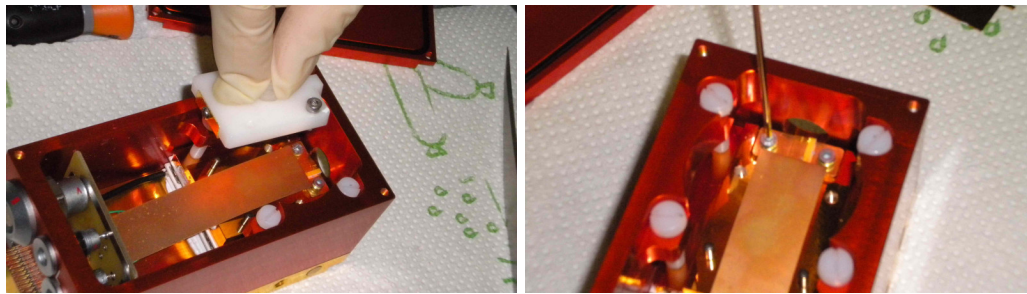

Figure 5.26.: Laser exchange procedure: removing the contact set (left), securing the laser submount (right).
2. remove the two screws (3) holding the contact set (4) using a 2mm hex key
3. remove the contact set using the central PET² knob, as show in figure 5.26.
4. remove the two screws holding the laser submount using a 1.5 mm hex key, as show in figure 5.26